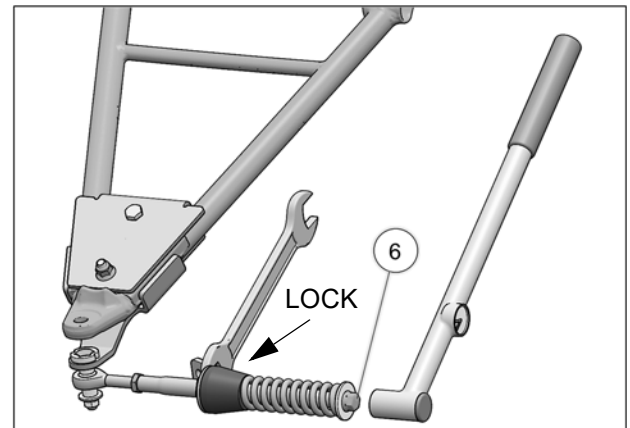

Fig. 20
11. Verify that spring assembly bolt (6) is tightened to the recommended torque specification: 75 N•m [55 lb•ft]. Make sure to lock in position, the large nut in front of the rubber cone damper. Refer to Fig. 20